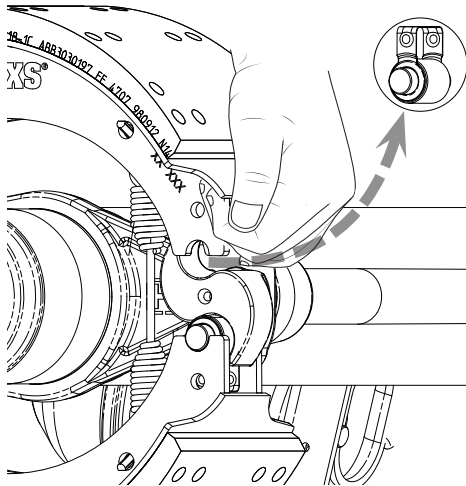

Figure 2: Removing brake shoe roller and roller retaining clip
2. **Lift** the upper brake shoe and **remove** the top brake shoe roller and roller retaining clip (Figure 2).